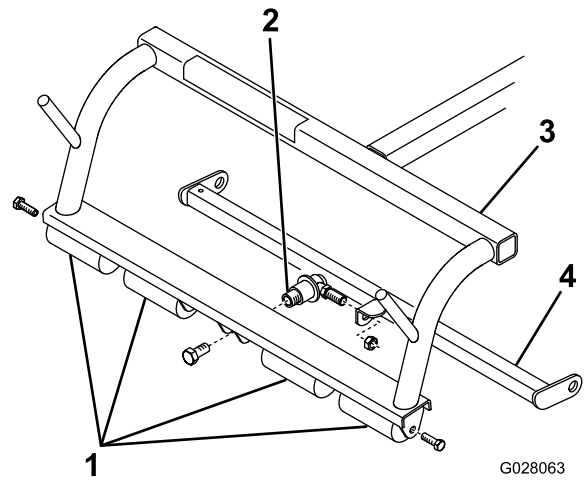

Figure 3
Note: If the carrier frames are equipped with single-point pull frames, the pull frame and attaching ball joint must be removed (Figure 3).
- A. Remove the screws securing the outside ends of each anti-scalp roller shaft to each end of the carrier frame (outside end of shafts only) (Figure 3).